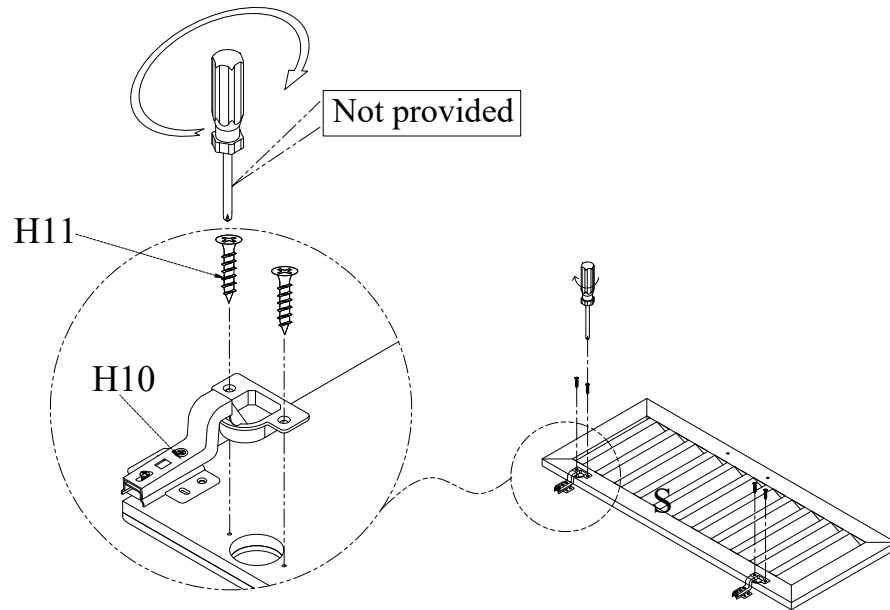

Figure 14
Place Right door (S) on a soft smooth surface with the large holes facing up. Align the holes of Door hinge (H10) with the pre-drilled holes of Right door (S) as shown in figure 14. Secure Door Hinge (H10) in place with Flat head screw (H11) using screwdriver (Not provided) as shown in figure 14. Repeat this process to attach Door hinge (H10) to Left door (R).